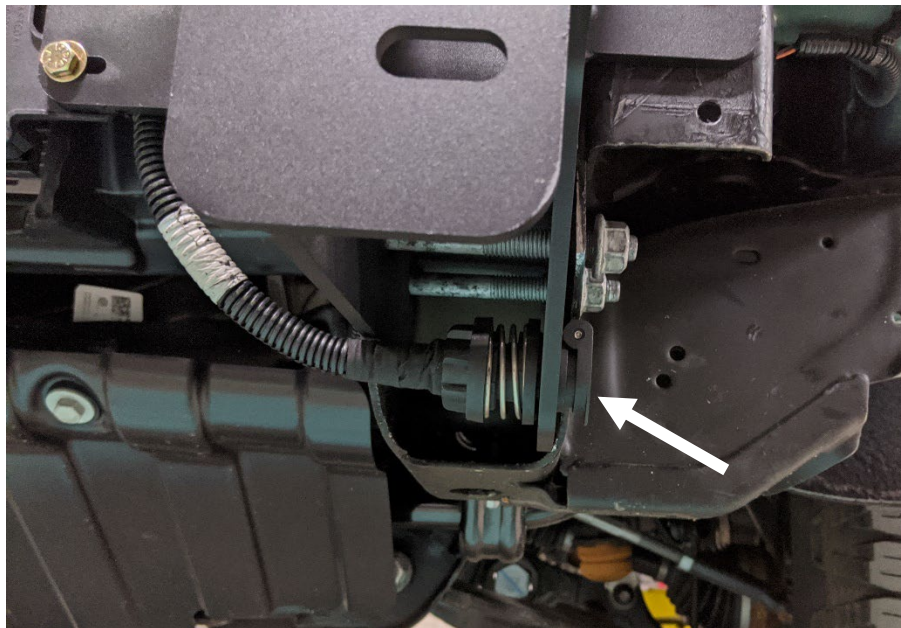

Figure 22
21. Reverse the process in step 16 to install the heater plug into the driver side mounting bracket. Reconnect the heater plug wiring harness before mounting the bumper. (Figure 22)